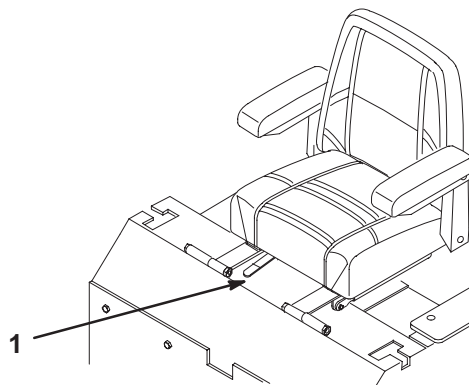

Figure 23
1. To adjust, move the lever sideways to unlock seat (Fig. 23).